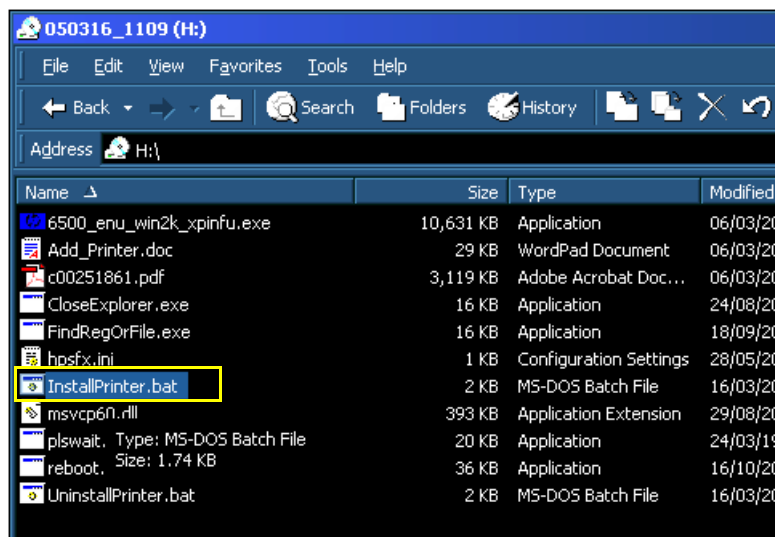

Figure 8-180 Install Printer
- 8.) Browse the CD (Drive H:) and double-click on the *InstallPrinter.bat* file (Figure 8-180)